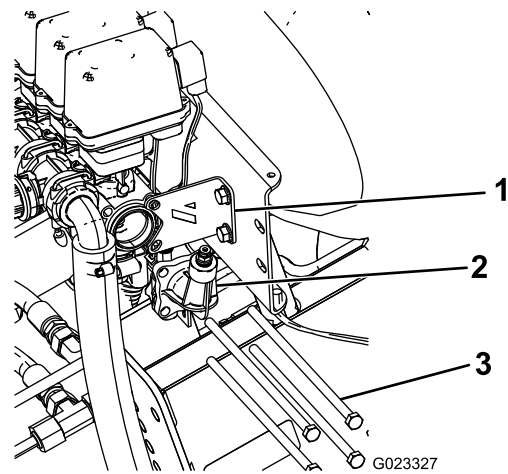

Figure 10
1. Remove the 4 long bolts securing the pressure-gauge port to the boom valves and discard them (Figure 10). Retain the flat washers and nuts.
2. Remove and retain the 2 bolts and nuts securing the stabilizing bracket to the valve assembly (Figure 10).